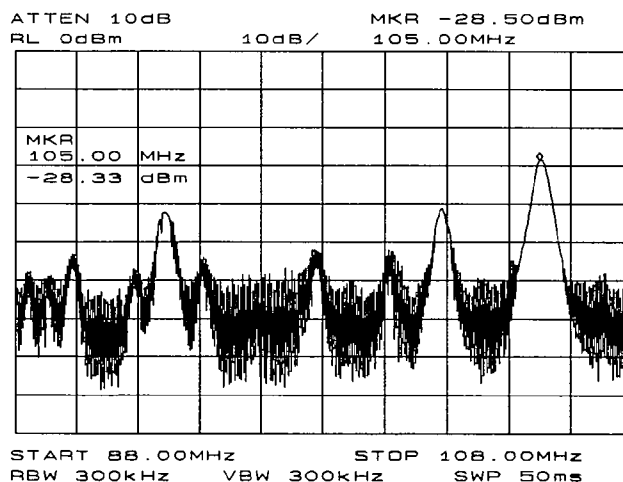

Figure 3-14. Place a marker on the signal of interest, then demodulate.
2. To demodulate an FM signal, a marker must be activated before the demodulator is turned on. For easier use, the AM/FM demodulation menu contains the marker functions. Pressing **AUX CTRL**, then **AM/FM DEMOD** will show the demodulation menu. Activate a marker by pressing **MARKER NORMAL**. Position the marker on the signal of interest. If the signal of interest is the highest in amplitude, press **PEAK SEARCH** directly, as in Figure 3-14.